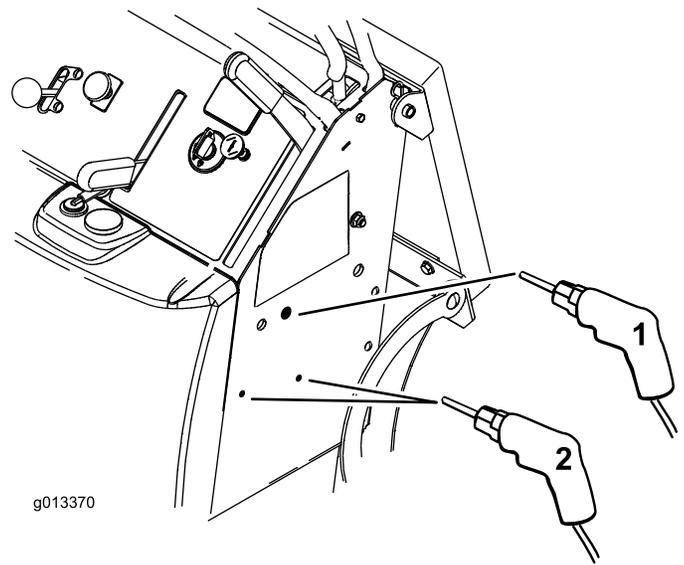

Figure 5
1. Before drilling the holes, check if the holes already exist (Figure 5). Proceed to procedure 4 if the holes exist.
- 6. Drill one 11/32 inch diameter hole into the side of the machine for the handle (Figure 5).
- 7. Drill two 11/64 inch diameter holes into the side of the machine for the manual tube (Figure 5).